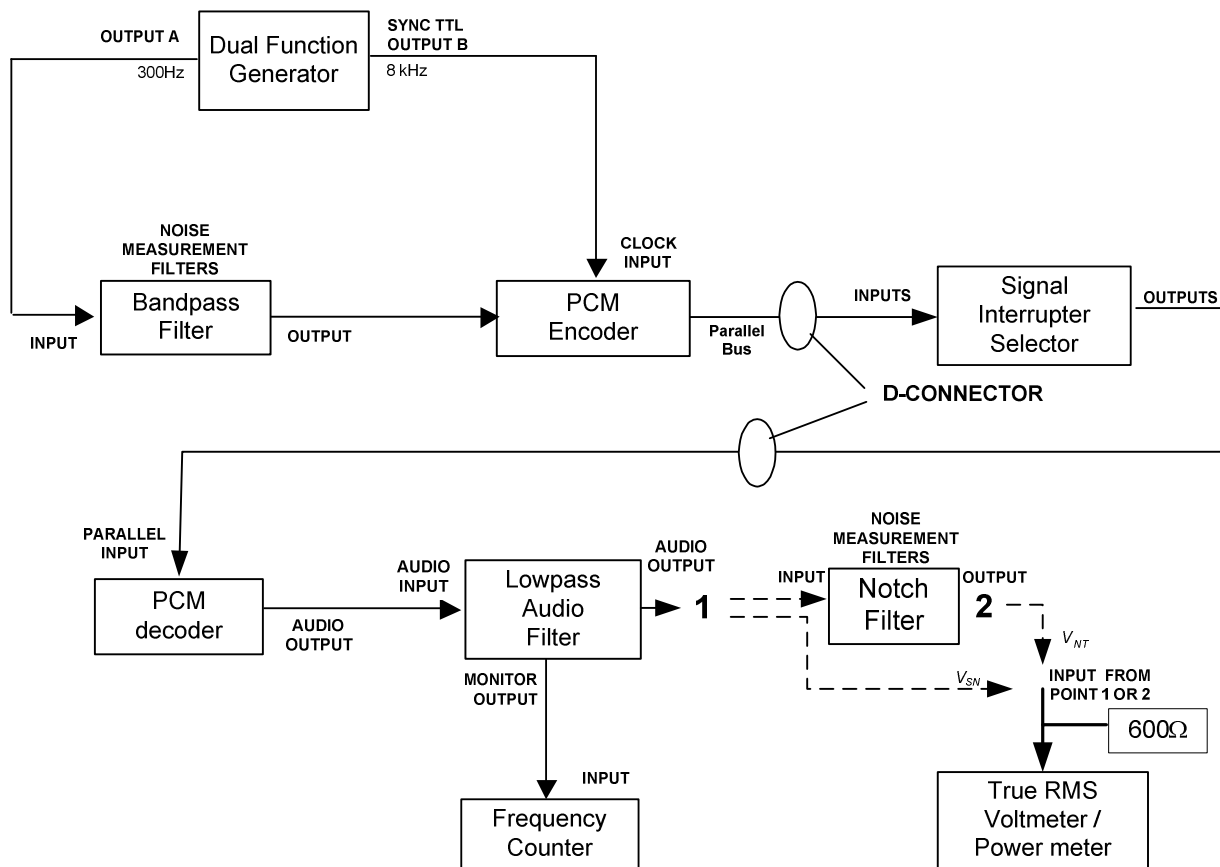

Figure 4.2 Block Diagram of the setup to Measure SQNR
5.2 Figure 4.2 shows the block diagram of the experimental setup used to measure the signal-to-quantization-noise-ratio (SQNR). The true RMS voltmeter / Power Meter, is used to measure the voltage of the reconstructed voltage signal and quantization noise, V_{SN} point 1. The NOTCH FILTER of the Noise Measurement Filters will remove the message signal leaving the quantization noise. The voltage measured at the output of the Notch Filter, V_{NT} (point 2) represents the total noise voltage. Therefore we can derive the following equations:
Figure 4.2 setup: